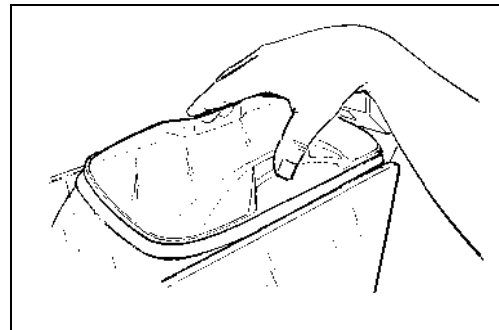

Fig. 6
- Remove the secondary transparent cover (fig.6).